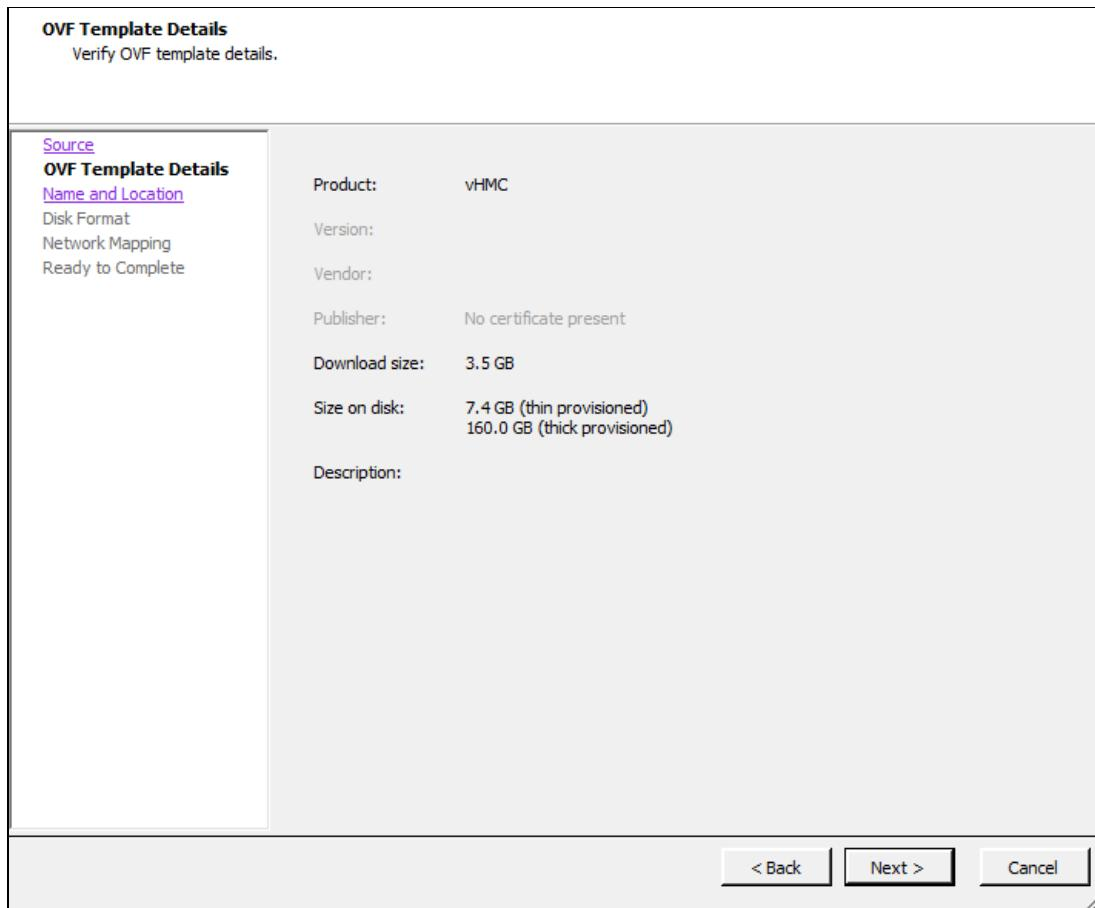

Figure 3-54 OVF template details
8. In the OVF Template Details panel (Figure 3-54), click **Next** to continue.